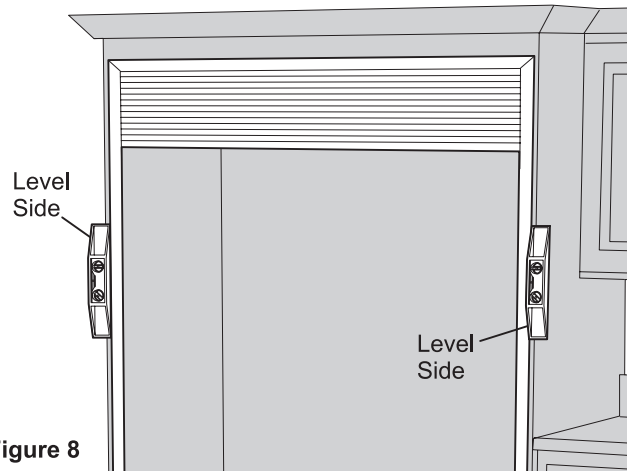

Figure 8
4. Using a carpenter's level, check that each side is vertical. Shim as necessary. Next, secure top and bottom of each side trim to cabinetry using two 3/4" mounting screws (G). See Figure 8.